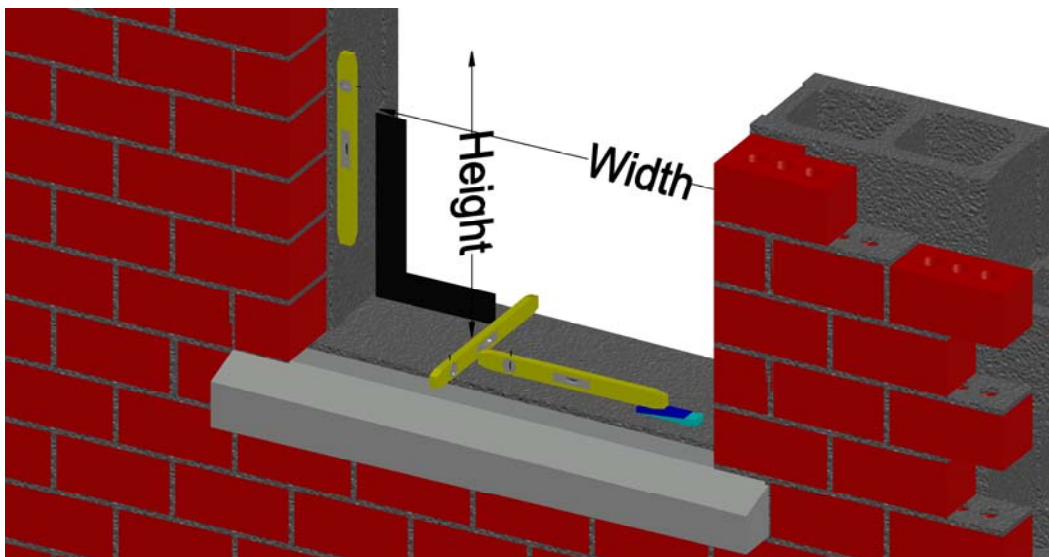

Fig. 1
- 4) Determine the high point of the masonry sill, and the low point of the head, using a level, straight line & line level, or transit. Shim as required to achieve a level sill (jamb to jamb and inboard to outboard). Verify the opening height will work with the materials planned for usage of the opening. (See Fig.1)
- 6) In order for the window system to operate properly, all materials must be set plumb and level, both side to side and front to back. This is especially important for windows with operating vents. (See Fig.1)